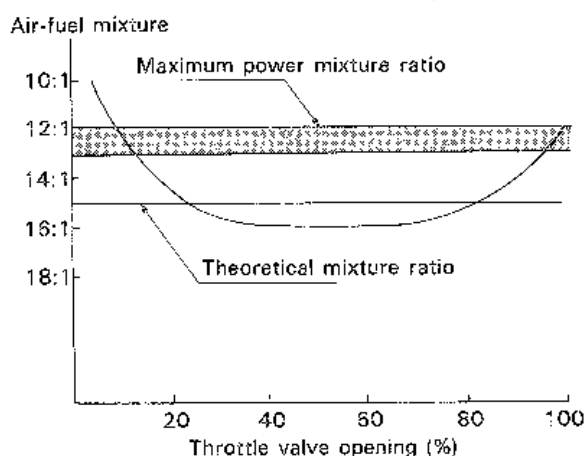

Fig. 1
2. Air-fuel mixture required by the engine (Fig. 1)
In reality, varying mixture ratios are required for the engine, depending on operating conditions. Although the required mixture ratio varies more or less with the type, the cooling efficiency, etc. of the engine, the mixture ratio shown in Fig. 1 is required for ordinary engines. In the high speed range, the ratio of about 12 to 13 grams of air for 1 gram of fuel produces the maximum output. However, in the case of an engine with low cooling efficiency, a somewhat richer mixture (10 to 12 grams of air against 1 gram of fuel) may be required to prevent seizure of the engines.